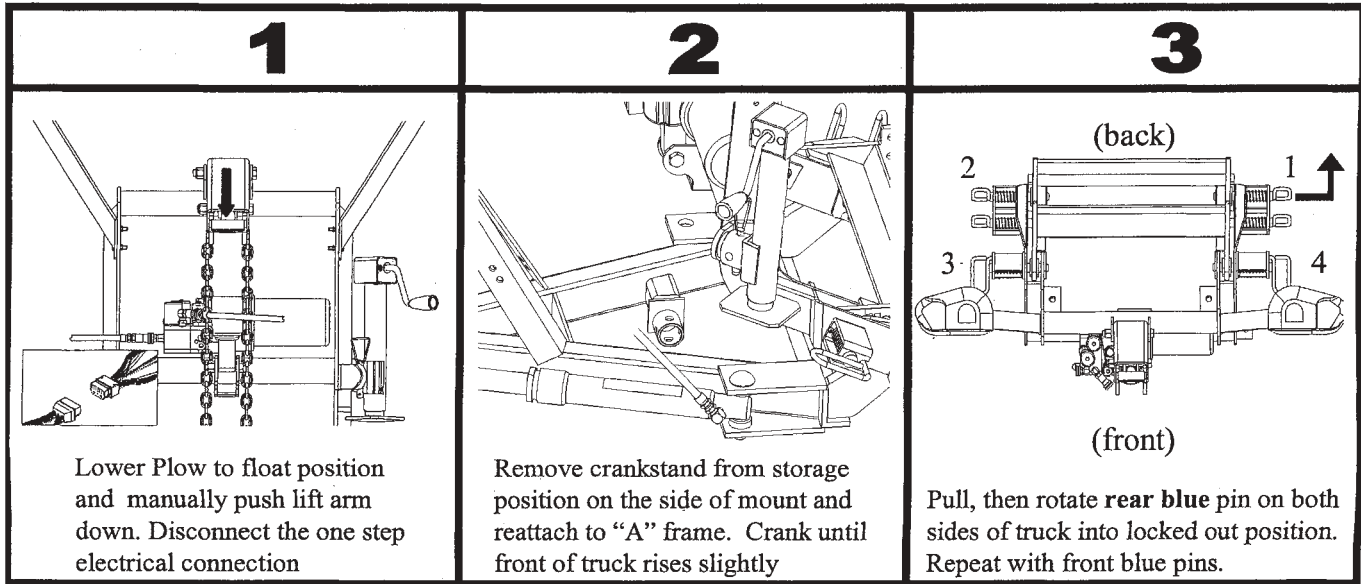

Fig. 2
2. Diamond's tripedge gives way when objects are struck at ground level. Diamond's rigid moldboard system keeps the blade upright and plowing until your truck loses traction. Fig. 2.